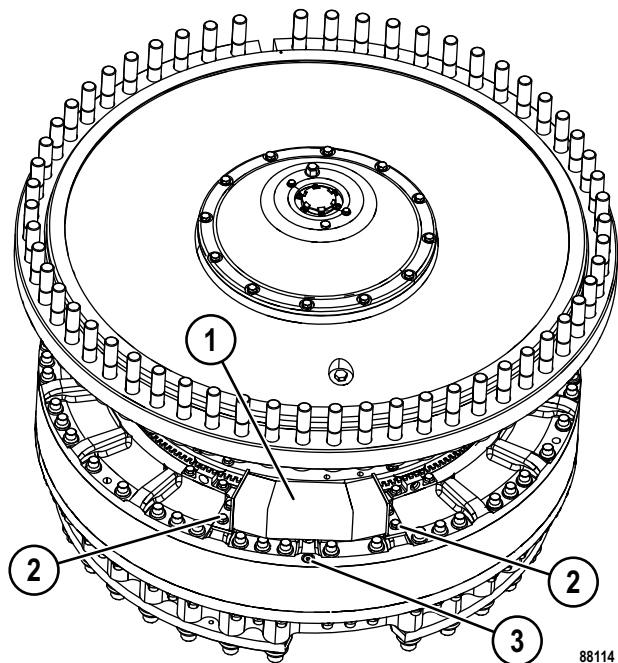

FIGURE 50-67. CATCHMENT TANK REMOVAL
5. Remove catchment tank (13, Figure 50-67).